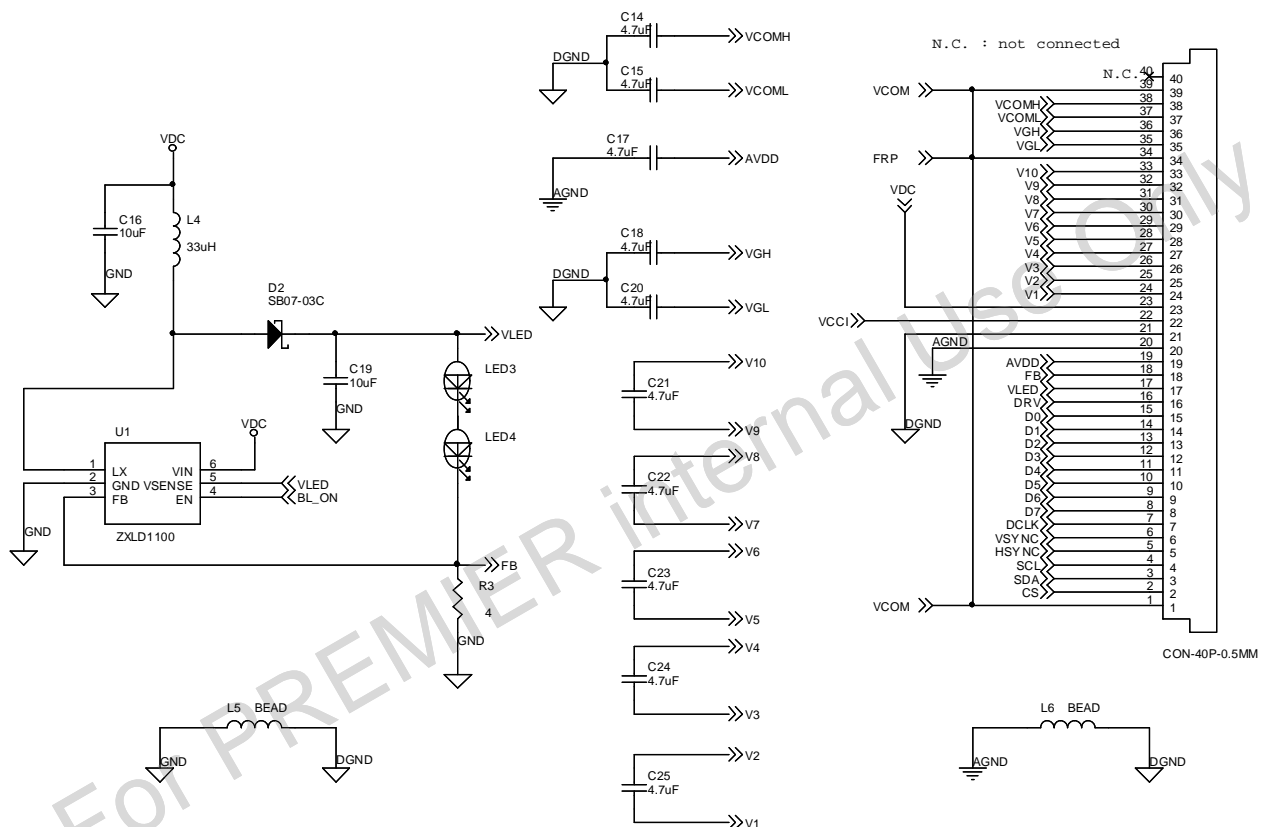

Fig.14 External LED driver Circuit
See Fig. 14 for the application circuit.
According to Fig. 14, the LED driver(ZXLD1100) and R3(4 ohm) with 0.1V feedback (FB) can provide a constant 25mA current for LED backlight unit. To control the back light on/off timing, user should create a control signal BL_ON (please refer to the ZXLD1100 date sheet). The LCD driver output DRV signal can also be used to drive BL_ON.